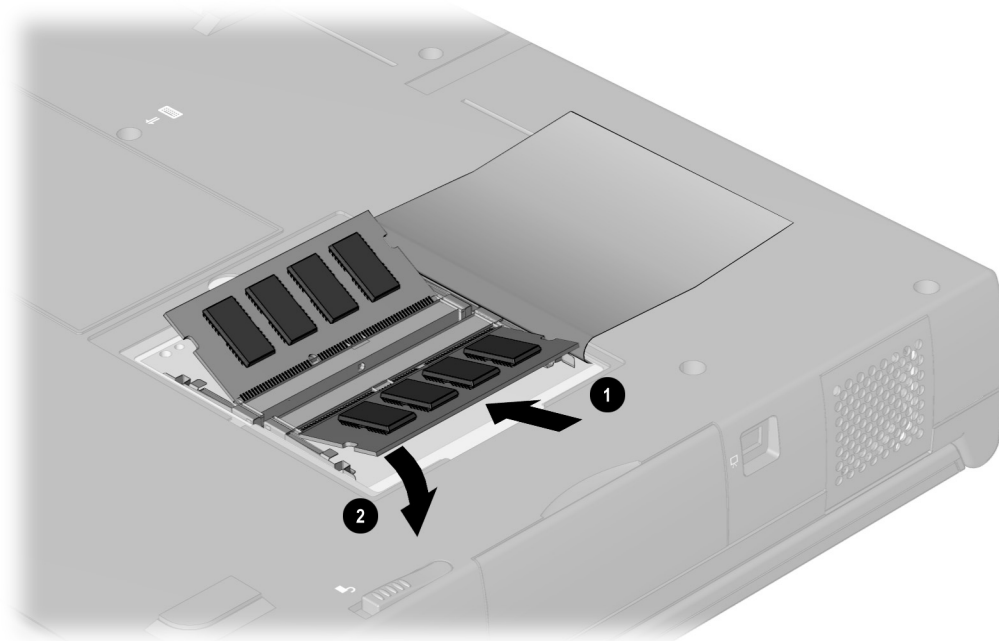

Figure 5-26. *Inserting a Memory Expansion Board*
1. Insert the memory expansion board into an empty memory expansion slot at a 45-degree angle ❶ (Figure 5-26).
3. Push the memory expansion board down ❷ until the board is seated in the plastic retention clips.